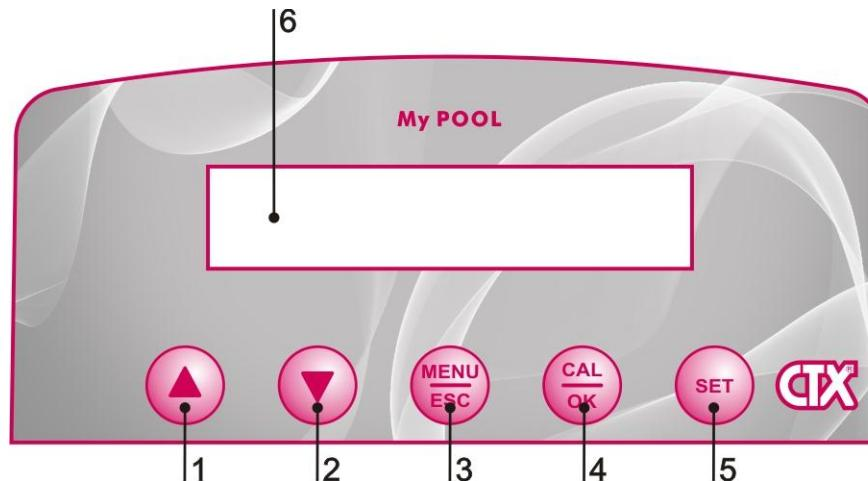

Fig. 4
- d.- Slide the hoses over the nipples, pushing them right home and then fix them with appropriate tube nuts (Fig.4).